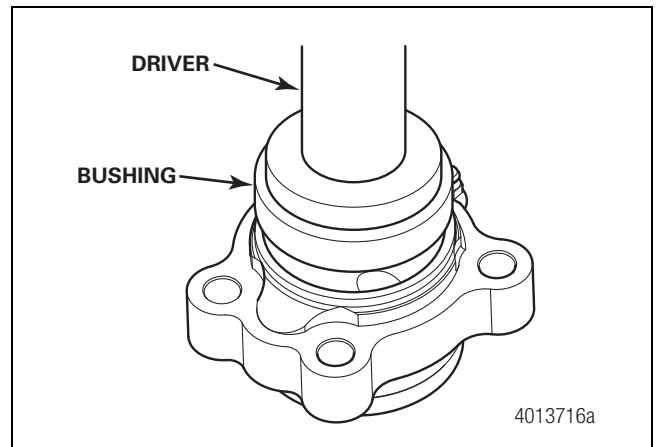

Figure 11.45
9. Insert a new bushing into the housing and use a driver to push the bushing in until it is centered in the housing. Figure 11.45.